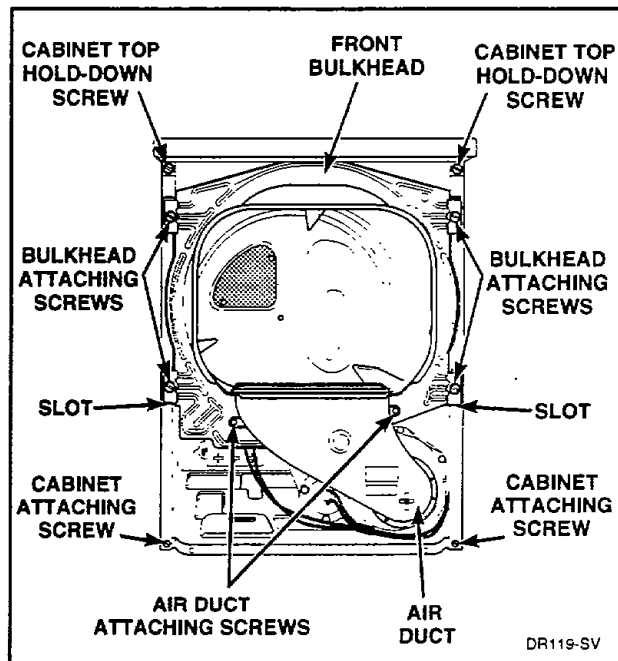

Figure 37
- Remove four screws holding bulkhead to front flange of cabinet, *Figure 37*. Lift complete bulkhead assembly out of slots in cabinet.
- Remove four screws holding bulkhead to front flange of cabinet and lift complete bulkhead assembly out of slots in cabinet, *Figure 37*.
- Loosen two cabinet top hold-down screw, *Figure 37*.
- e. Remove two cabinet top hold-down screws, *Figure 37*.
- k. Remove four screws holding bulkhead to front flange of cabinet and lift complete bulkhead assembly out of slots in cabinet, *Figure 37*.